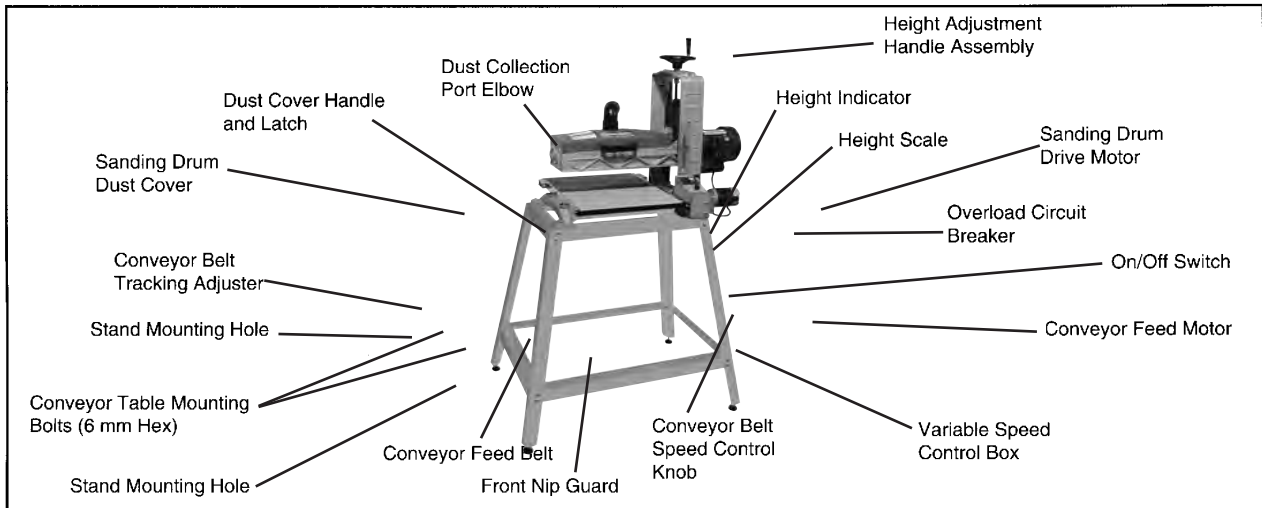

Figure 2
17. **NEVER PUT YOUR FINGERS** into the dust port or under the drum dust cover. (See Figure 2.)
Familiarize yourself with the following components and features of the Wide Drum Sander using Figures 2, 3, and 4 before connecting the power cord or using the tool.
The height of the drum is raised by turning the height control knob (refer to Figure 2) in a clockwise direction. To lower the drum, turn the height control knob in the counter-clockwise direction. The depth of the movement is approximately 1/64" per 1/4 turn in either direction. One complete turn is 1/16". Depth settings can be measured using the depth indicator scale located on the right side of the drum support frame.
5. Reverse the feed direction of the stock on successive passes, while adjusting the depth of cut using the height adjustment handle assembly (refer to Figure 2). Several variables affect the proper depth of cut selected. They are: abrasive grit choice, width of stock, hardness of stock, feed rate, and moisture content of stock.